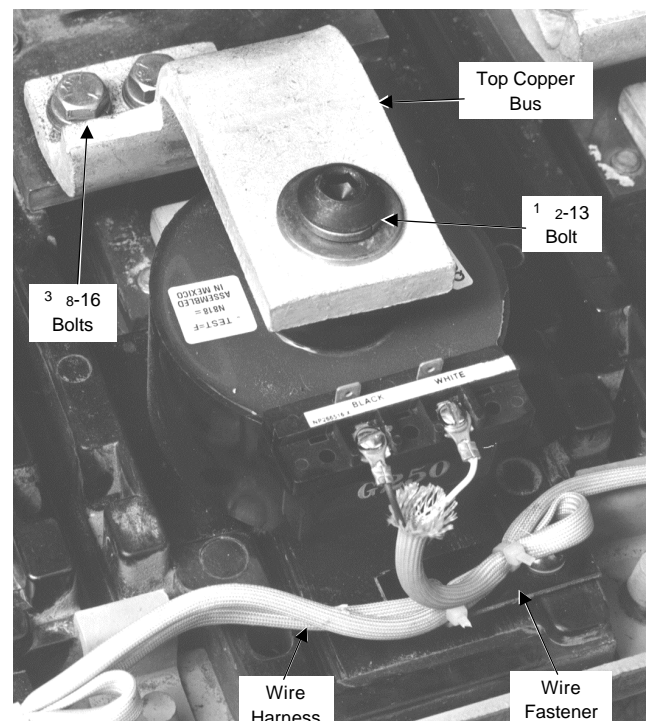

Figure 20. CT installation completed..
2. Fasten the three small insulated wire fasteners to the back frame with the  $1$  4-20 x  $1\frac{3}{4}$ " screws provided, as shown in Figure 20. One fastener is mounted under each CT.